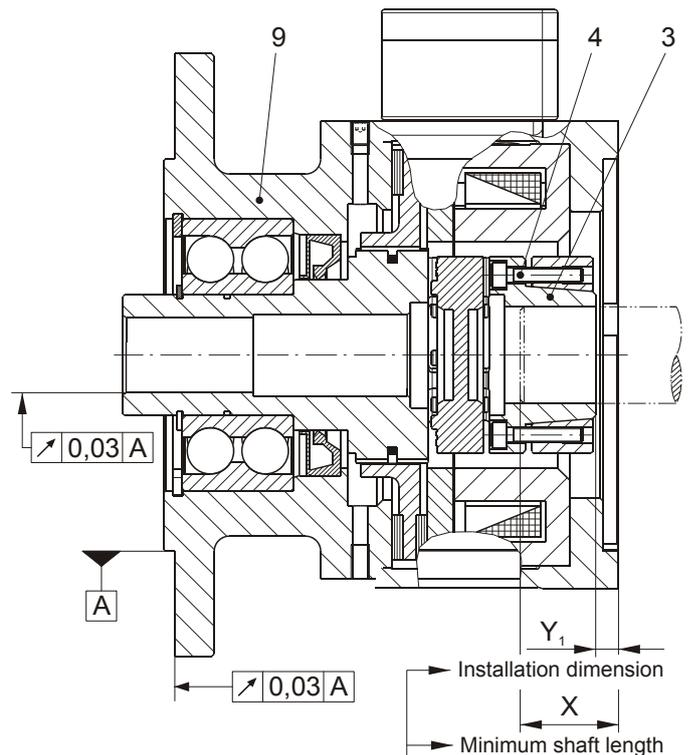

Fig. 4
- The axial run-out and shaft run-out tolerances of 0,03, as shown in Fig. 4, must not be exceeded. Larger deviations affect the installation of the brake or can lead to a drop in braking torque, to continuous grinding of the rotor (7) and to overheating.
- The rotor (7) and brake surfaces must be oil and grease-free.
- The clamping screws (4) must be loosened.
- If the installation position is horizontal in order to protect against oiling after gear leakage, the lower set screw (18) must be removed, meaning the lower drain bore in the clutch housing must be opened.
- The minimum strength class of the customer-side cap screws (8) is 8.8 (tighten the screws using a torque wrench!)
- Please keep to the installation dimensions Y_1 and Y_2 , see Table 1 and Figs 4/5, as otherwise the brake function cannot be guaranteed.
Brake Installation (Figs. 4 and 5)
The axial run-out and shaft run-out tolerances of 0,03, as shown in Fig. 4, and the max. permitted shaft misalignments must not be exceeded, as otherwise motor installation is not possible.